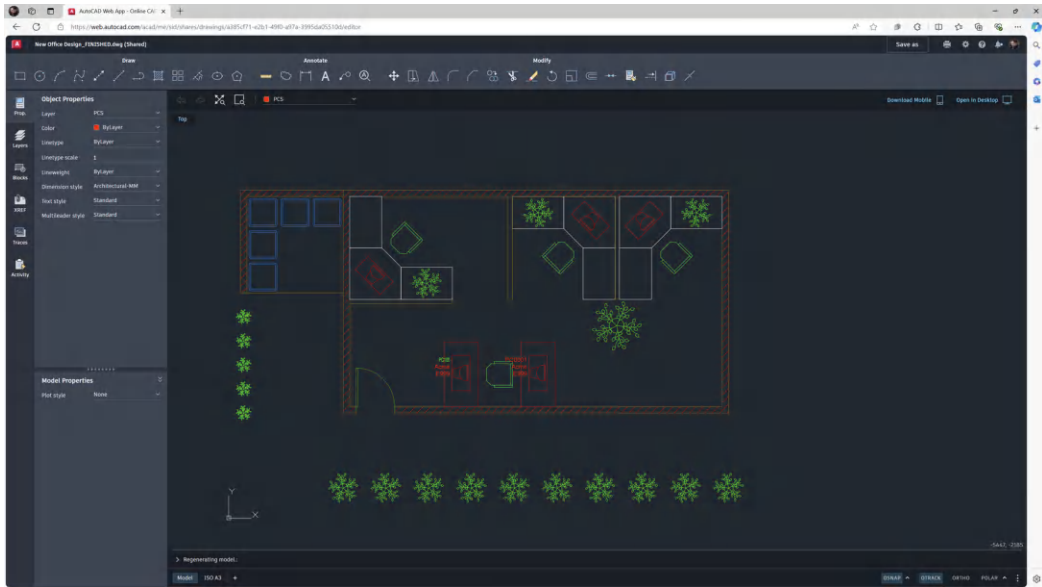

Figure 13.3: The drawing being previewed in AutoCAD Web
2. Provided you are logged in to your Autodesk account, click on **Preview** in the dialog box, and you will automatically be taken to a new browser page with the drawing displayed in AutoCAD Web, as shown in *Figure 13.3*.